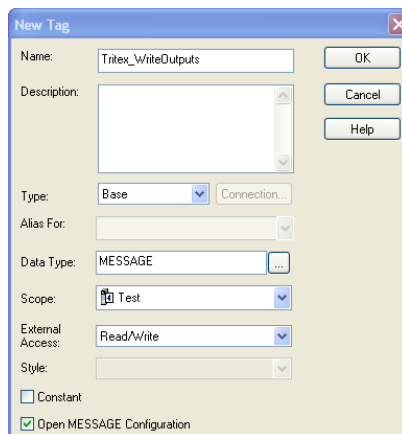

Figure 32 – Set – Message Tag
3. In new Tag menu, assign name to tag, Check **Open MESSAGE Configuration** box, then click **OK**. See figure 32.
8. From Tag Menu select icon next to Data Type and change **INT** Dim 0 to “101”, then click **OK**, returning to New Tag Menu. Click **OK** to Defined New Source Element Tag “Tritex_OutputData” See Figure 32 and 33.